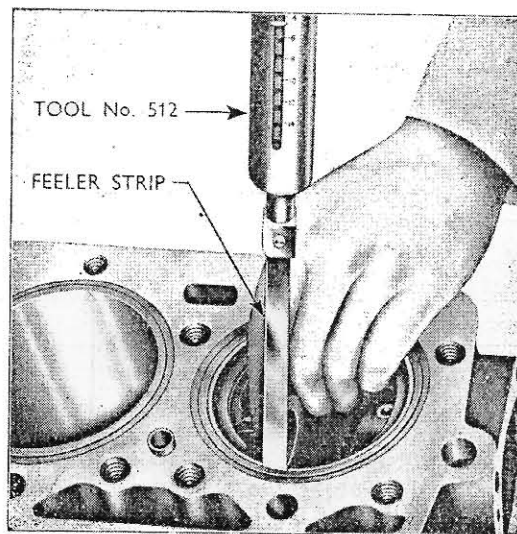

Fig. 17
14. Reverse the engine on the engine stand, and if new pistons are being fitted, select the piston to suit the bore by using the poundage pull gauge (Tool No. 512) with a feeler strip 9 ins. (228.6 mm.) in length, .004 in. (.102 mm.) thick and .5 in. (12.7 mm.) wide. (See Fig. 17.)